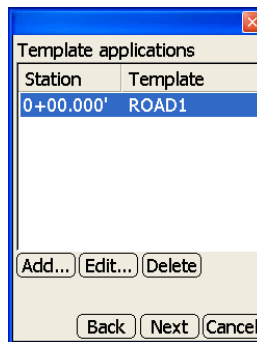

Figure 3-62. Vertical Profile Parameters
- Add – on the **Vertical profile** dialog box, press **Add** to enter an element and its respective information, then press **Ok** to save the information (Figure 3-62).